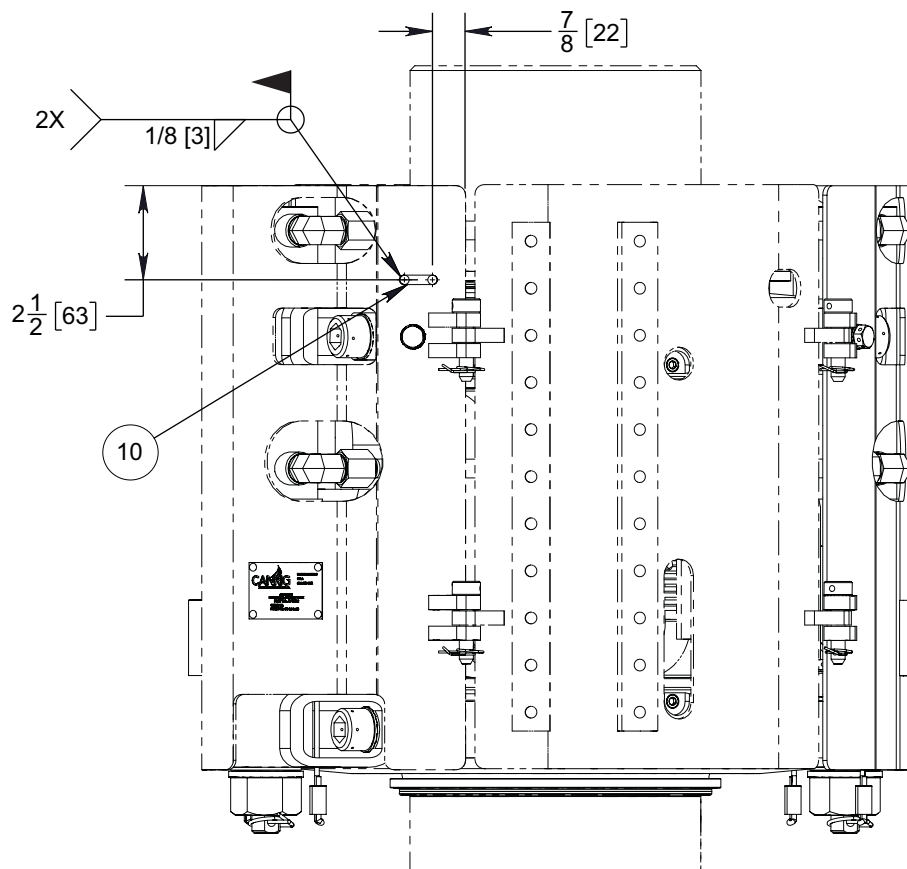

Figure 1: Welding Securement Point to Guard
3. Weld Item 10 to the actuator guard on the same side the anti-rotation bracket is mounted to as shown in Figure 1 with a 1/8" fillet weld.